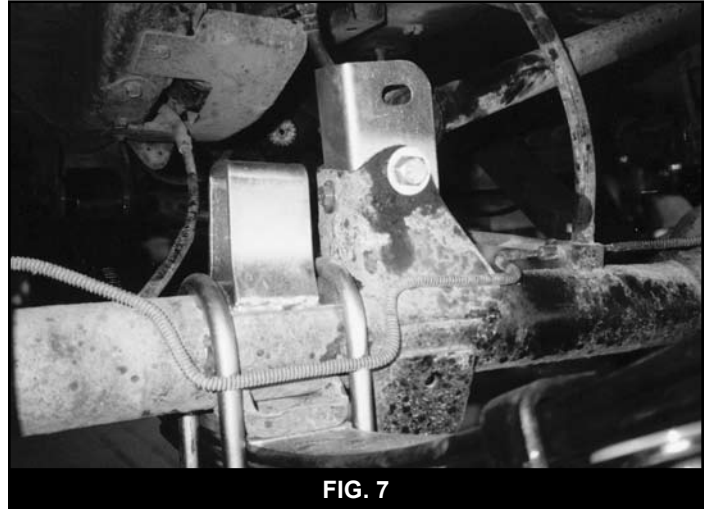

FIG. 7
23. Place 1/2" ID x 1 5/8" sleeve in track bar extension bracket at the 1/2" ID hole to retain spacing. Retain loosely with 12mm x 70mm bolt. Install 5/16" x 1" bolt, with washers and lock nut in the lower outside hole. Torque the 5/16" then the 12mm bolt. Mount track bar using the OE fastener. It may be necessary to loosen the mount at the frame. Do not torque fasteners at this time. (Fig. 7)